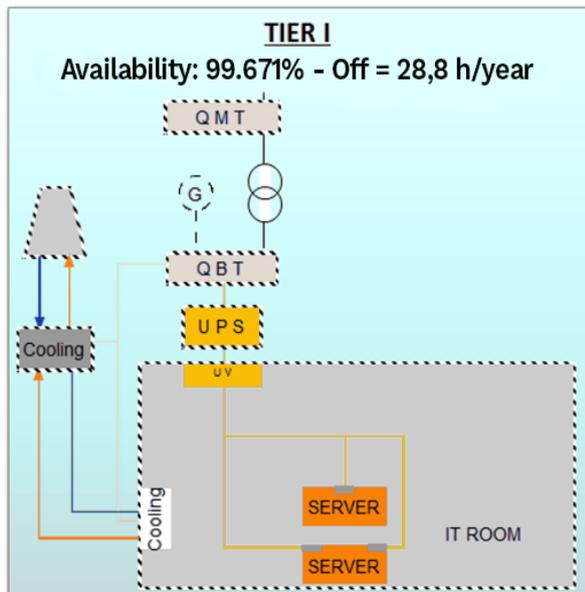

Fig. 9
**Single power supply network (Fig. 9)**